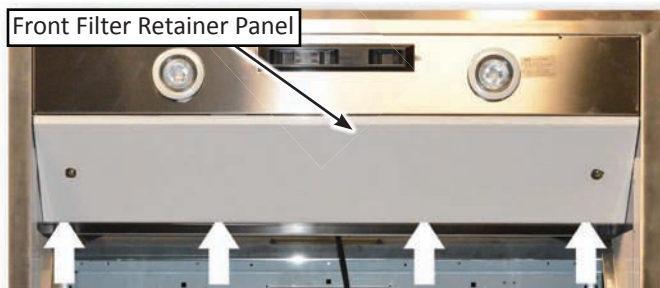

Figure 1
3. Remove (4) T20 screws along the underside edge of the front filter retainer, see figure 1.